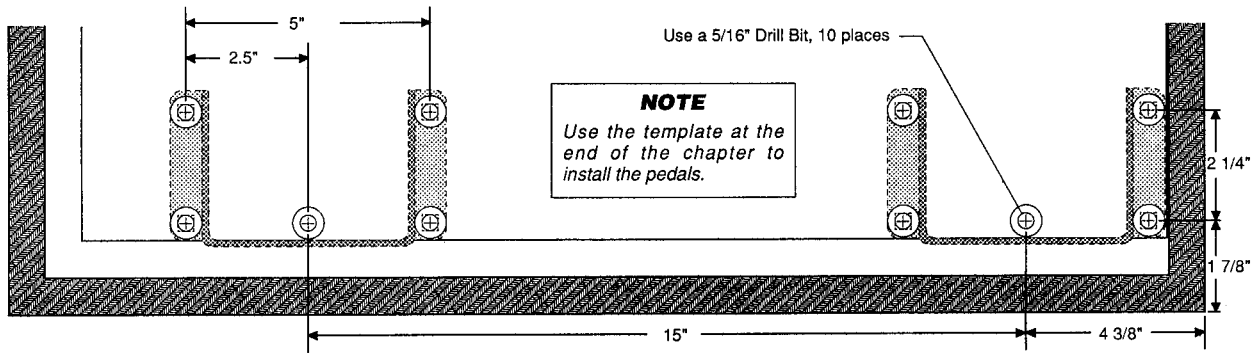

Figure 1-2 Installing the Pedals on the Game
5. Cut the copy of the pedal installation template apart. Put the pieces on the cabinet according to the dimensions shown in Figure 1-2 and on the template.